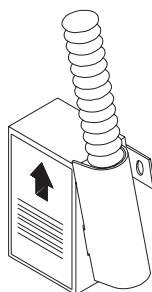

Figure 3
3. Push wires and connectors into opening of test switch/pilot light box fastened to reflector. Install flex connector into box making sure that flex is oriented in direction of arrow (see Figure 3).